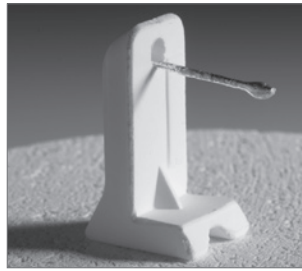

Fig. 1: Temperature ideal
- started to melt: Temperature ideal (Fig. 1)
Experience has shown that a recalibration of $\pm 5\text{ °C} / 9\text{ °F}$ is appropriate. After adjusting the calibration value, run the calibration program again until the silver wire has correctly started to melt (Fig. 1).
The calibration value has been saved. Run the calibration program again and make sure that the silver wire has correctly started to melt (Fig. 1).